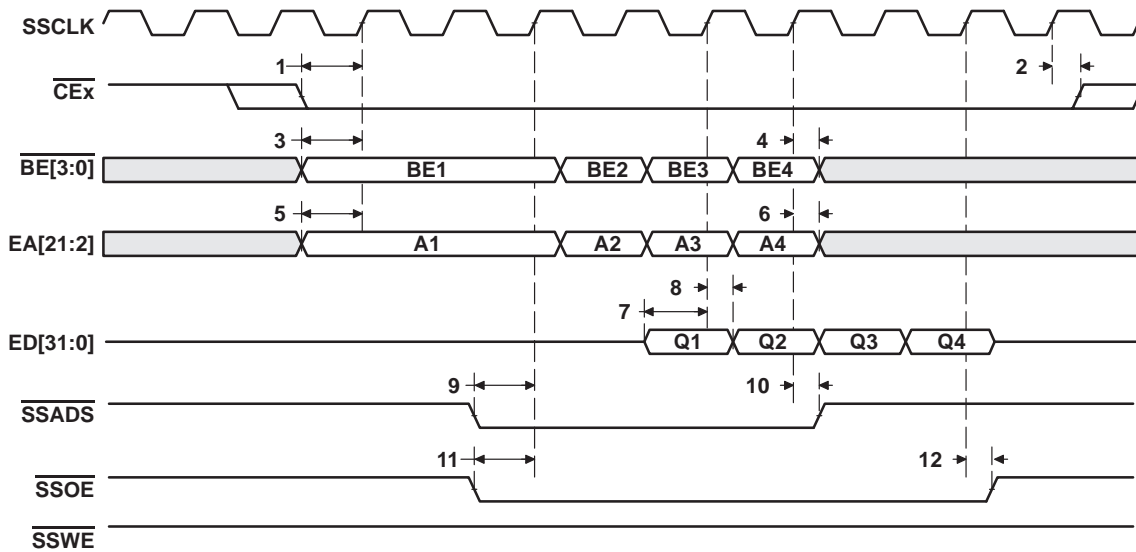
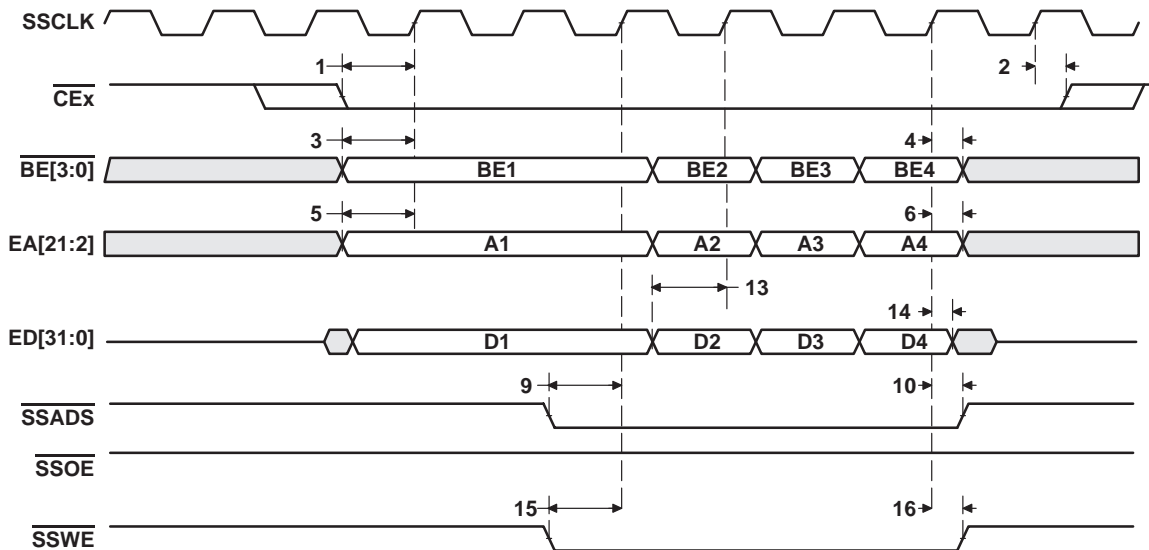

Figure 16. SBSRAM Read Timing (Full-Rate SSCLK)
Figure 17. SBSRAM Write Timing (Full-Rate SSCLK)
**timing requirements for synchronous-burst SRAM cycles (full-rate SSCLK) (see Figure 16)**
**switching characteristics for synchronous-burst SRAM cycles† (full-rate SSCLK) (see Figure 16 and Figure 17)**